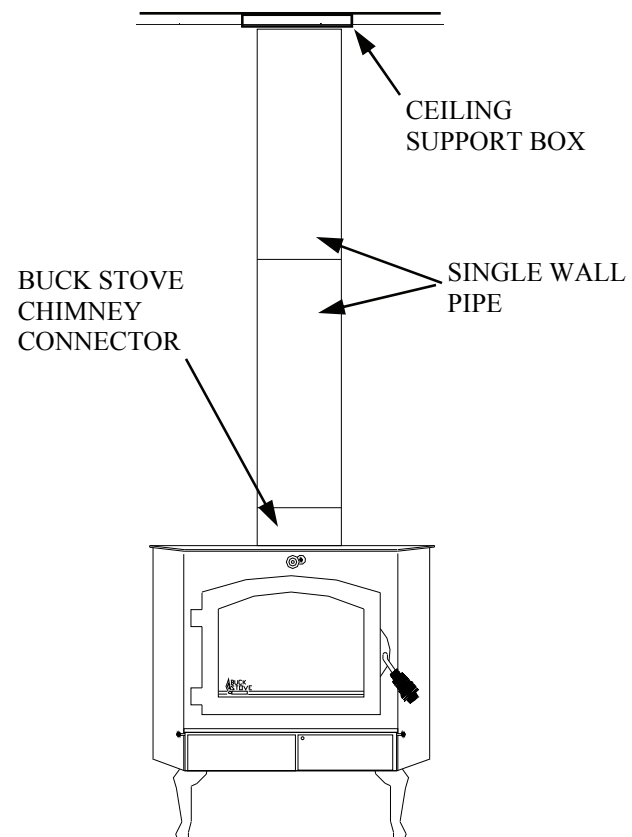

FIGURE 8
- Now connect the stove to the ceiling support box by using #24 ga. minimum blued or black steel chimney pipe. (Do not use galvanized pipe.) Connect each section so the crimped end faces downward, and secure each section to each other using at least three (3) sheet metal screws or rivets. (See Figure 8)